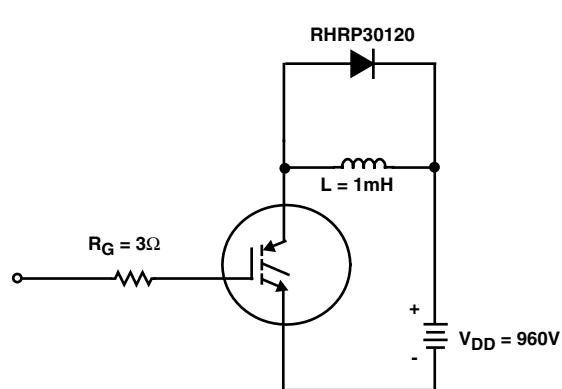

FIGURE 18. INDUCTIVE SWITCHING TEST CIRCUIT
4. Values for two Turn-On loss conditions are shown for the convenience of the circuit designer. EON1 is the turn-on loss of the IGBT only. EON2 is the turn-on loss when a typical diode is used in the test circuit and the diode is at the same T_J as the IGBT. The diode type is specified in Figure 18.